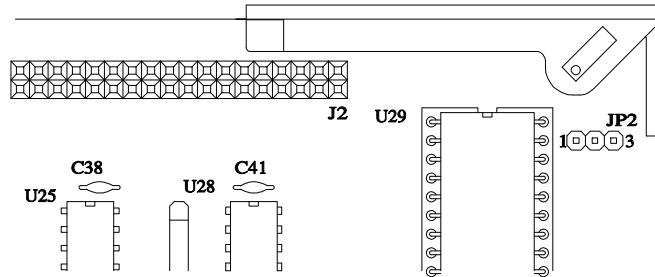

Figure 38 DLS 400E Controller IFC Strap Option
- 5) Locate JP2 using Figure 38 and installed the shunt in the desired location. Setting JP2 in the IFC position (pin 1 and 2) resets only the interface when IFC is received. In the “RESET” position (pin 2 and 3), IFC resets the entire unit.